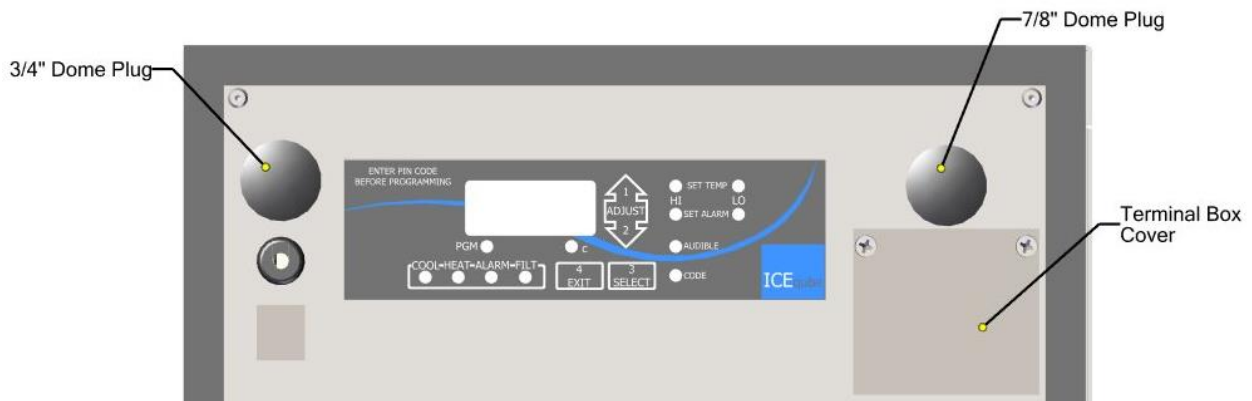
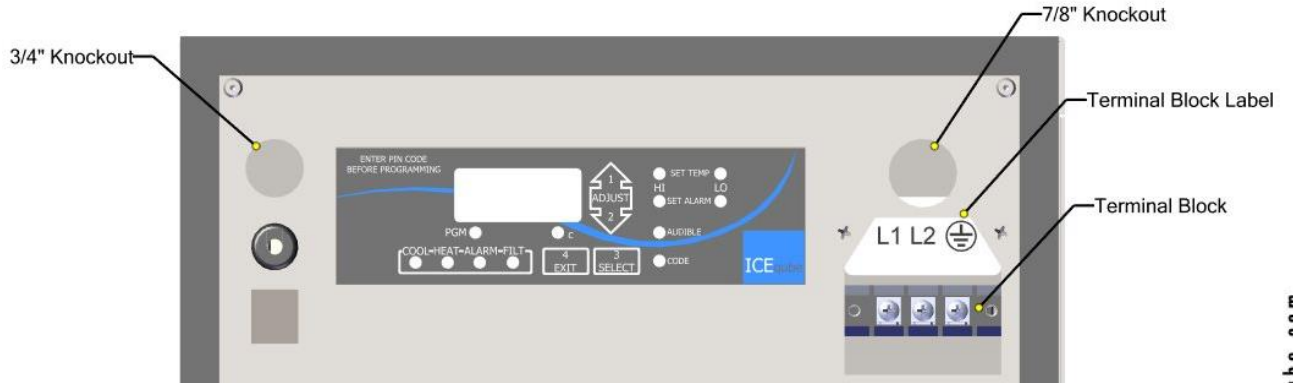

Figure 3: Terminal Cover
Figure 4: Terminal Block
3. Remove the (2) terminal box cover screws and remove the cover. (See Figure 3: Terminal Cover). The terminal block will be used for power. (See Figure 4: Terminal Block)
4. Remove Dome Plug and route power cable through the 0.875" (22.23mm) hole. (See Figure 3: Terminal Box Cover) Use an approved strain relief to secure wires.